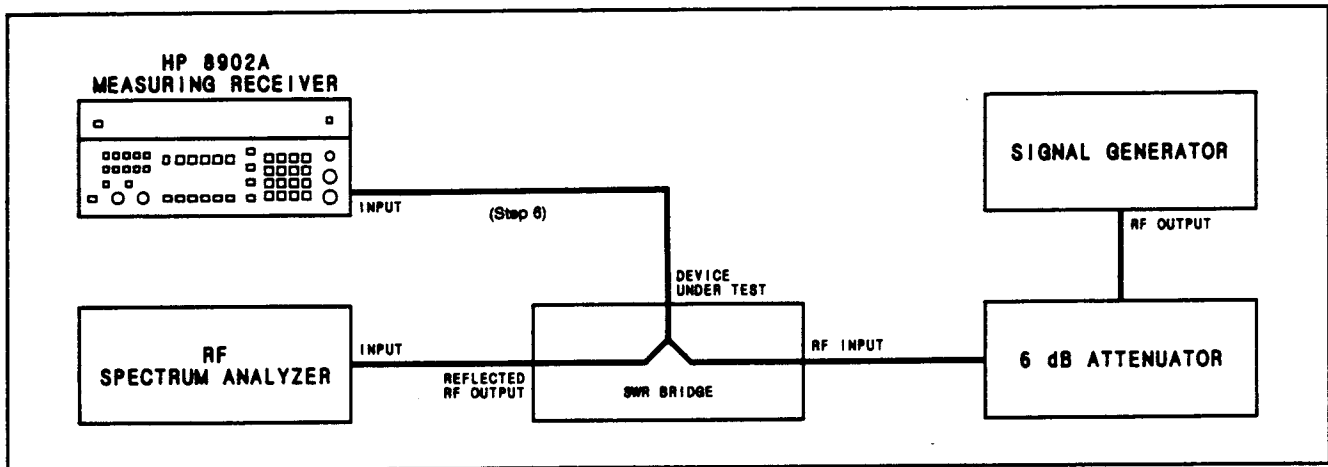

Figure 4-7. SWR Performance Test Setup
1. Connect the equipment as shown in Figure 4-7. Connect the 6 dB attenuator directly to the RF input of the SWR bridge. Do not connect anything to the device-under-test input of the SWR bridge at this time.
7. Connect the SWR bridge directly to the Measuring Receiver's INPUT connector. (See Figure 4-7.)